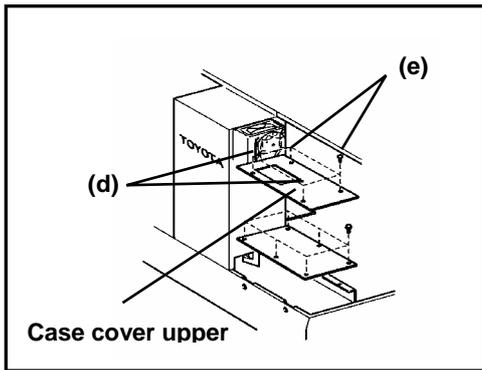

FIG.3
- (4) Loosen two setting screws (d), remove other two setting screws (e) and move the case cover upper. (Fig. 3)